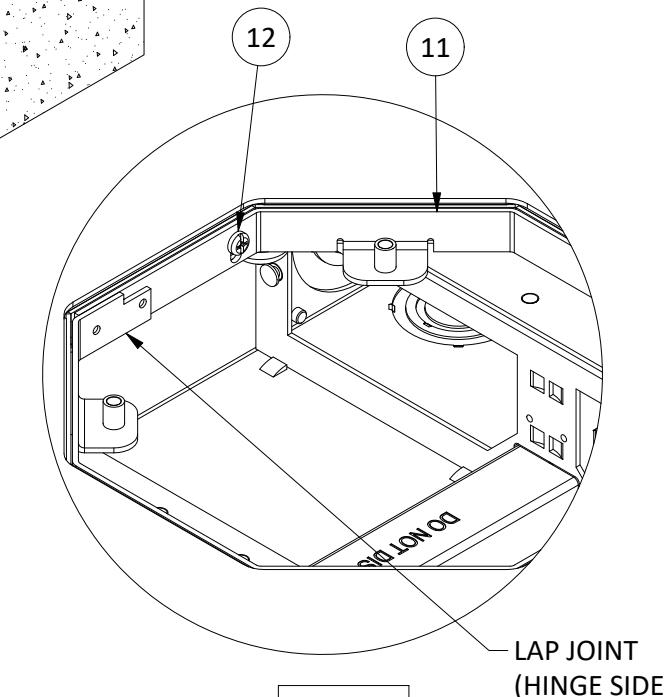

FIGURE 3
14. Orient cover support collar [11] as required by removing and reinstalling screws [12]. Lap joint in collar defines the hinge location of the cover (SEE FIGURES 3 & 4)